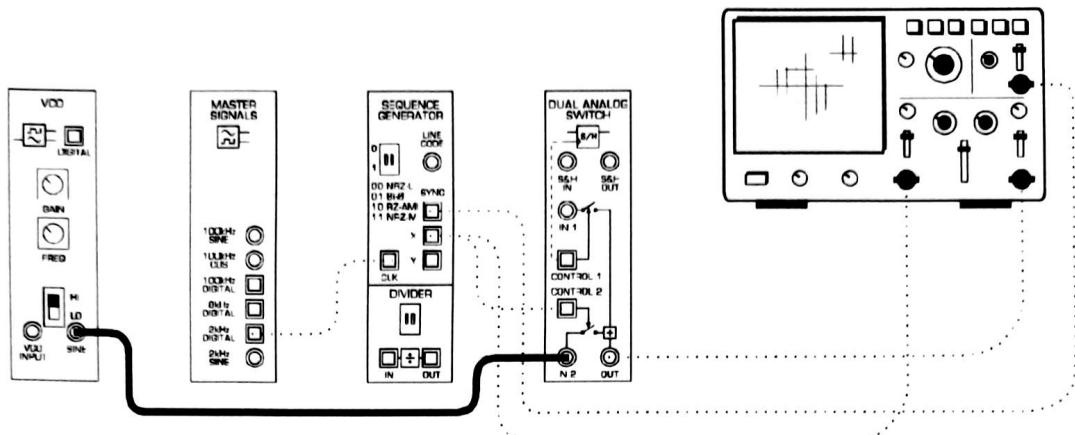

Figure 4
12. Modify the set-up as shown in Figure 4 on the next page.